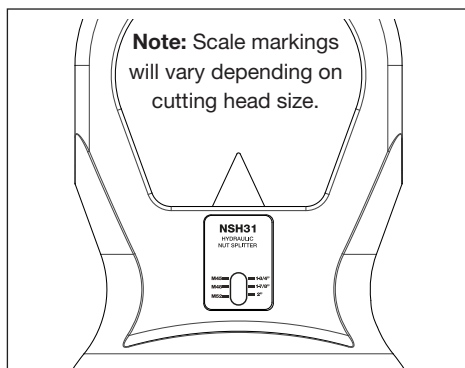

Figure 4: Blade Cutting Depth Scale
4. Rotate cutting head until the top of the blade carrier is aligned with the required bolt size marker line on the scale. See Figure 4.